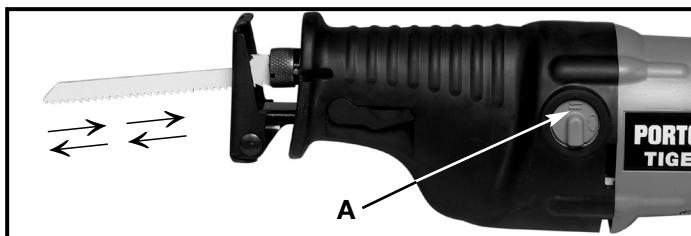
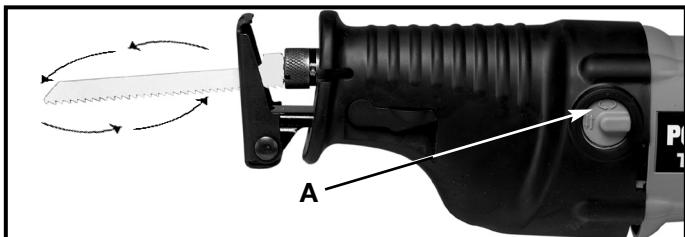

Fig. 10
Fig. 11
The **Model 747** has dual blade motion: you have a choice of straight reciprocating motion, as shown in Fig. 10, or orbital motion as shown in Fig. 11. Straight reciprocating motion should be used for all metal cutting operations, and for wood cutting applications where finish is more important than speed. Orbital motion is used for fast cutting of wood.
To set saw for straight reciprocating motion: rotate knob (A) Fig. 10, clockwise so that the bar is vertical (opposing arrow symbol up), as shown in Fig. 10.
To set saw for orbital motion: rotate knob (A) Fig. 11, counterclockwise so that the bar is horizontal (oval arrow symbol up), as shown in Fig. 11.
⚠WARNING DO NOT USE THE TOOL IF KNOB (A) FIG. 10 & 11 IS BROKEN AS EXPOSED METAL PARTS MAY BE MADE LIVE IF THE BLADE CUTS INTO LIVE WIRING WITHIN A WALL.